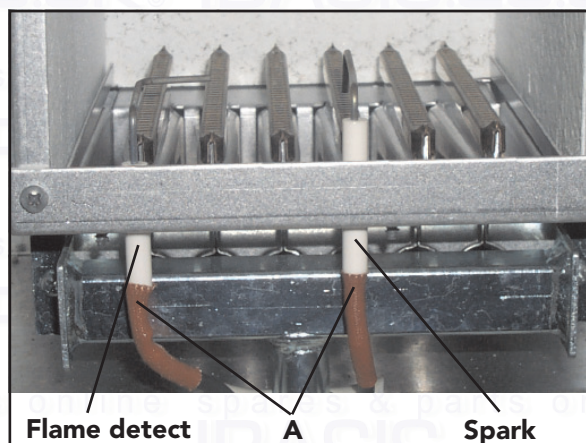

Fig. 28
Spark or flame detect electrode (fig. 28)
- Identify electrode from fig. 28